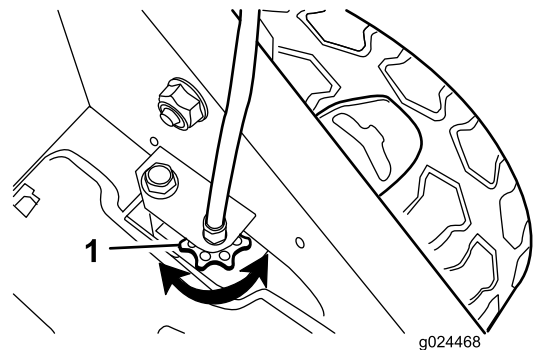

Figure 22
- If the wheels do not spin when you engage the self-propel-drive bar, the traction belt is too loose. Rotate the wheel-drive-control knob (Figure 22) clockwise 1 turn and repeat steps 3 through 5.
- If the wheels spin before you fully engage the self-propel-drive bar, the traction belt is too tight. Rotate the wheel-drive-control knob (Figure 22) counterclockwise 1 turn and repeat steps 3 through 5.